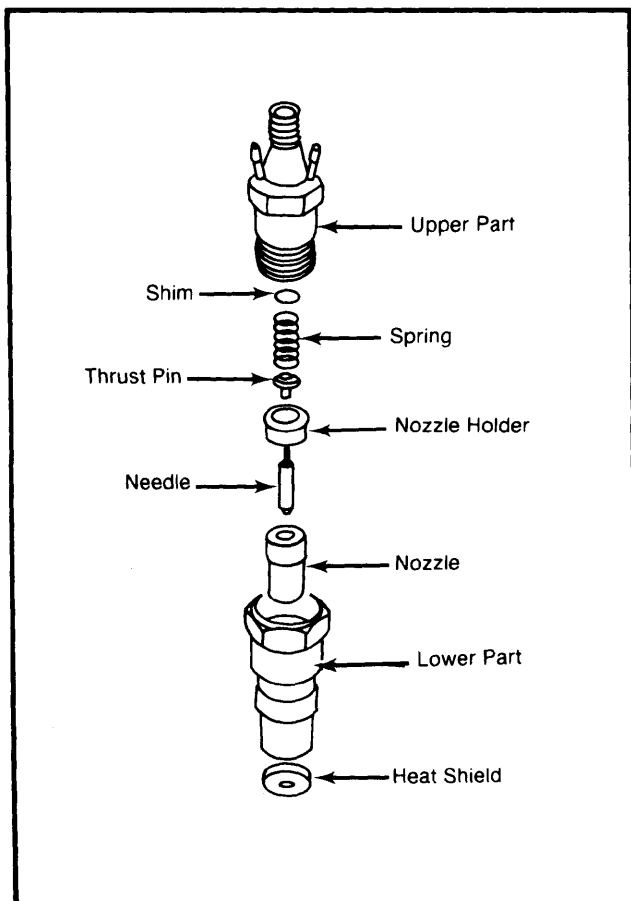

Fig. 13 Disassembling Injection Nozzles
1) To disassemble injectors, make sure parts are clean and use care not to damage any components. Do not reuse dropped needles. Make sure all injector components are kept with original injector and that parts are not mixed from one injector to another. See Fig. 13.